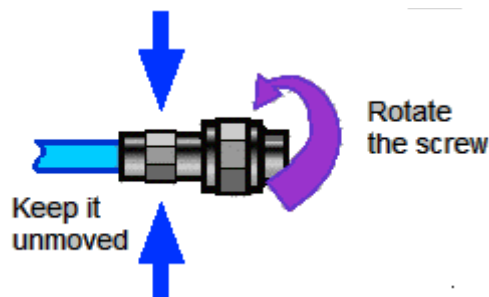

Fig. 3.4 Connection
**Step 2.** Move the two connectors together in parallel so that they can be joined smoothly. Rotate the connector screw (rather than the connector body) until it is tightened. The connectors should not rotate relative to each other during connection, as shown in Fig. 3.4.